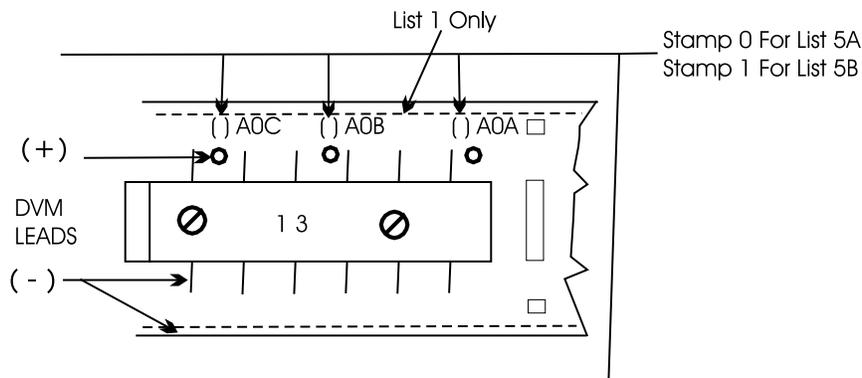

Figure 1. DVM Connection Location
2. Disconnect the plus (+) lead on the DVM from the AOC fuse per Figure 1.
3. Disconnect the common (-) lead on the DVM from either a ground punching or the mounting plate per Figure 1.